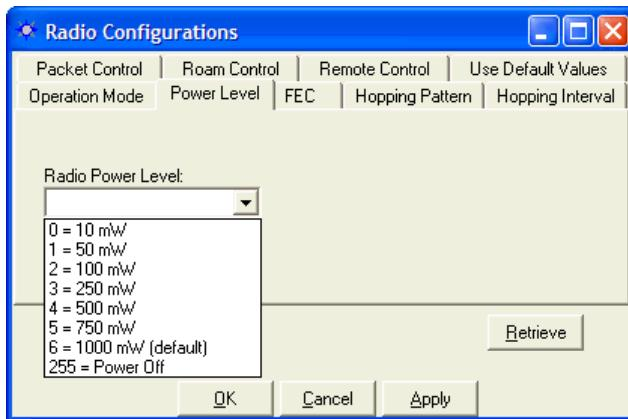

Figure 68: Radio Configuration – Power Level
8. Select the *Radio Power Level*, typically 1000mW max (see Figure 68).